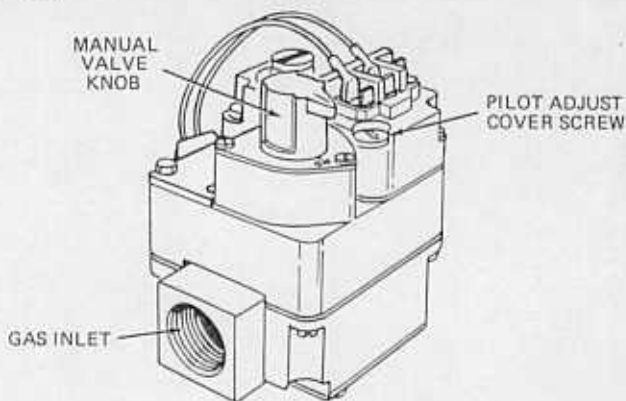

Figure 1
These controls are factory preset to provide ample flow of pilot gas. If field adjustment of pilot flame is required, remove "Pilot Adjust Cover Screw" (see Fig. 1) to expose adjusting screw. Turn
3. Remove "Reg. Adj" cover screw. (Figure 1).